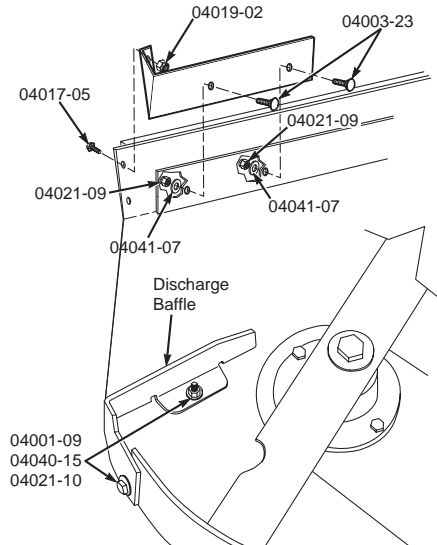

FIGURE 3-2
3. When installing this grass catcher on a machine with a serial number below 8619999, you will need to remove the discharge baffle from the bottom of the cutter deck. See Figure 3-2. Replace the discharge baffle with the new baffle provided with this grass catcher. Secure using the following hardware:
When installing this grass catcher on an Advantage deck, install the front baffle to the cutter deck. See Figure 3-2. Secure using the following hardware: